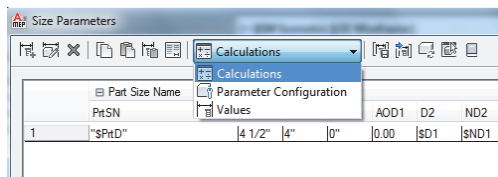

FIGURE 11.19
19. From the Size Drop list at the top of the dialog, choose **Calculations** (see Figure 11.19).